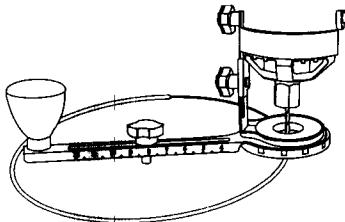

Fig. 14
6. When the motor is up to full speed, slowly tip the tool and circle cutter assembly to an upright position, letting the bit cut into the workpiece (see Fig. 14). Be careful to keep the pivot point located at the center of the circle to be cut. Once the tool has reached the upright position and the bit has cut through the workpiece, slowly move the tool in a clockwise direction using slow steady pressure to make the cut. Continue to cut the circle, keeping the tool upright and rotating around the circle cutter pivot point